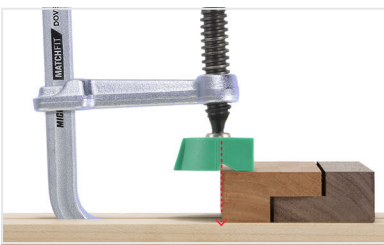

Figure 1: Edge positioning
**Dual Pressure Clamping:** To simultaneously apply vertical and in-line clamping pressure, position the X-PAD™ with the **Pressure Transfer Notch** at the top corner of your part, with the **Edge Positioning Guide** in line with the edge of the workpiece [Figure 1].